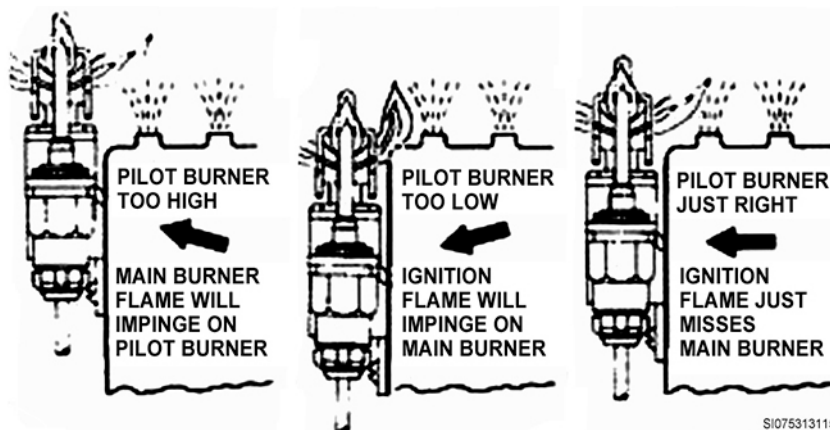

Figure 2-46. Location of pilot burner.
7. On an atmospheric burner, inspect the placement of the pilot burner and the burner head. This is extremely important when the burner incorporates multiple burner heads. In an installation like this, the pilot burner will ignite the gas at one burner head only. The flame from that burner head will then ignite the gas leaving the other burner heads. If the pilot burner and burner head alignment are wrong, a delayed ignition or furnace explosion may occur during start up. See figure 2-46 for proper installation.